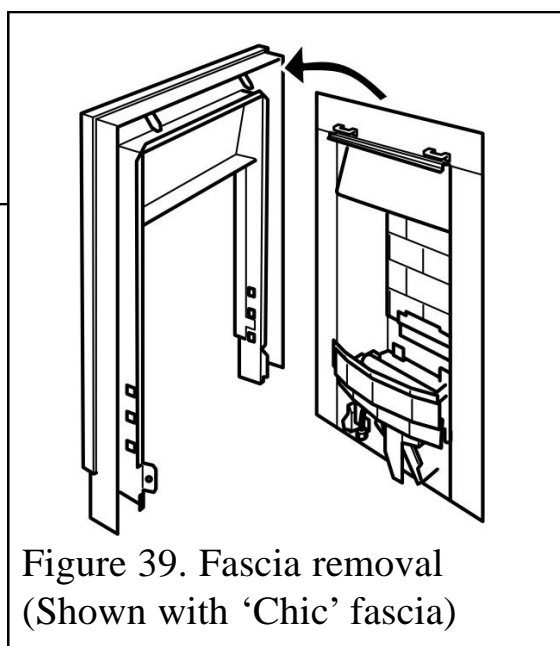

Figure 39. Fascia removal
4. **Make sure that the control linking bar has been detached (See point 2).** Carefully lift the fascia unit upward to clear the upper retaining brackets on the hotbox (See figure 39). Pull the fascia clear and place carefully aside.